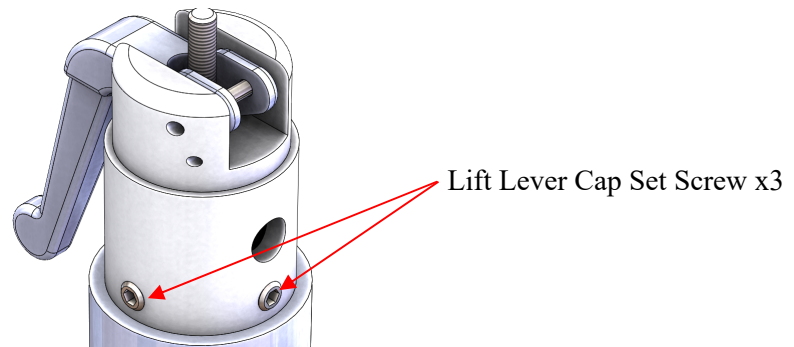

Figure 43: Lift Lever Cap Set Screws
4. Loosen the three lift lever cap set screws. See Figure 43.